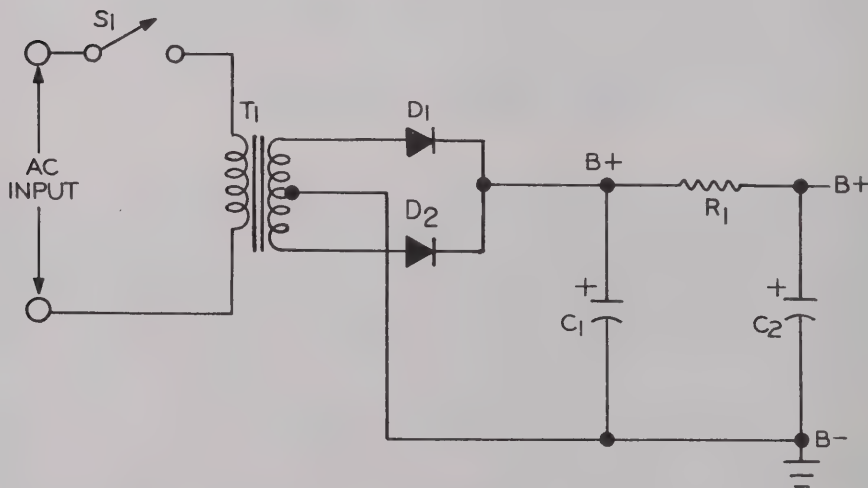

Figure 27
Figure 27 shows a power supply circuit in which an RC filter reduces the variations in the output voltage. Resistor R_1 and capacitors C_1 and C_2 form a low-pass filter, using R_1 in place of an inductor. The purpose of this filter is to attenuate all alternating voltage components and pass only direct voltage. The values of R and C are dependent on the frequency of the pulsations of the rectifier output. This frequency is called the ripple frequency.
In the circuit of Figure 27, the filtering may be considered to consist of two actions. The first is that in which C_1 is charged by the conduction of diodes D_1 and D_2 in series with alternate halves of the secondary winding of T_1 , and then discharges through the external load. For the second action, the voltage variations across C_1 are attenuated by R_1 and C_2 , which together form an L-type filter.
52. In the circuit of Figure 27, R_1 , C_1 and C_2 form a (a) low-pass filter, (b) high-pass filter.
53. For minimum ripple in the output of the power supply of Figure 27, R_1 and C_2 should have a (a) short time constant, (b) long time constant.